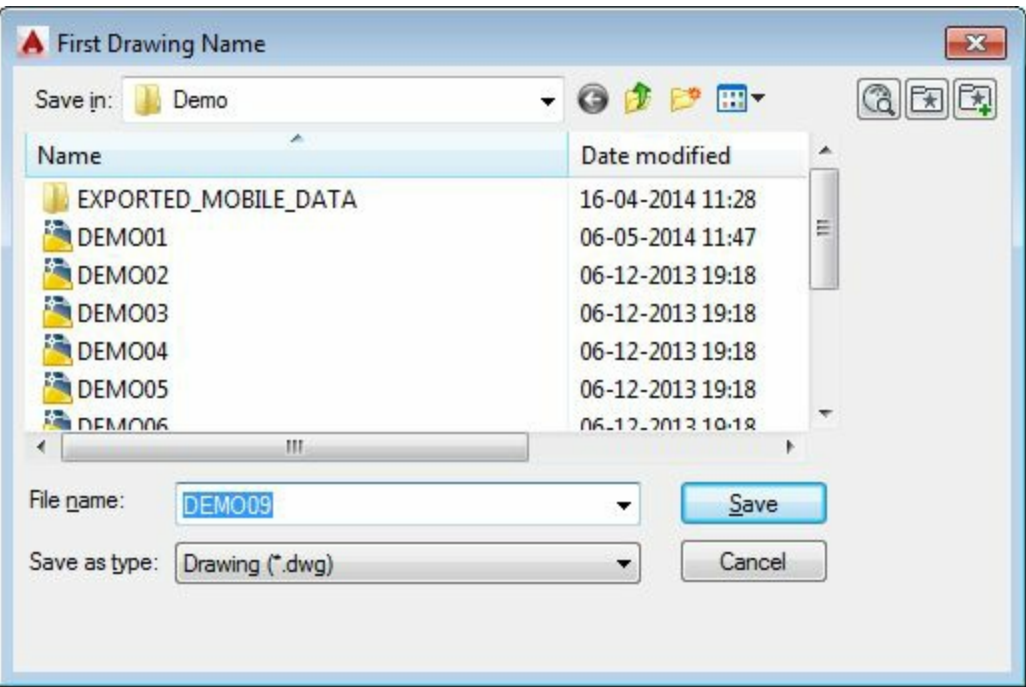

Figure-33. First Drawing Name dialog box
- Click on the **Browse** button for the **First Drawing Name** edit box in the **Drawing Information for Table Output** area of the dialog box. The **First Drawing Name** dialog box will be displayed; refer to Figure-33.